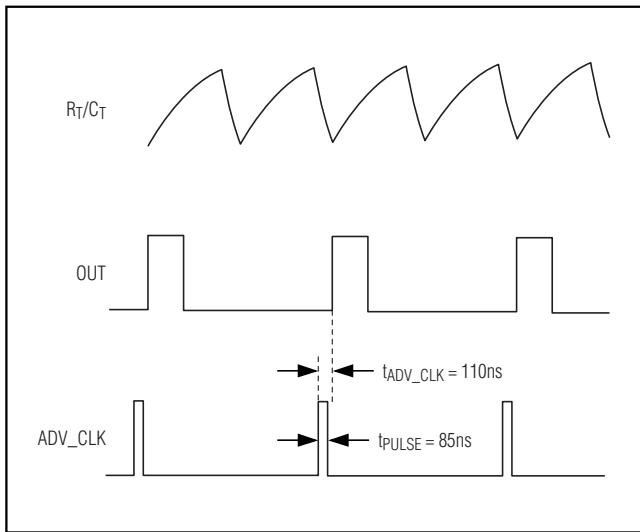
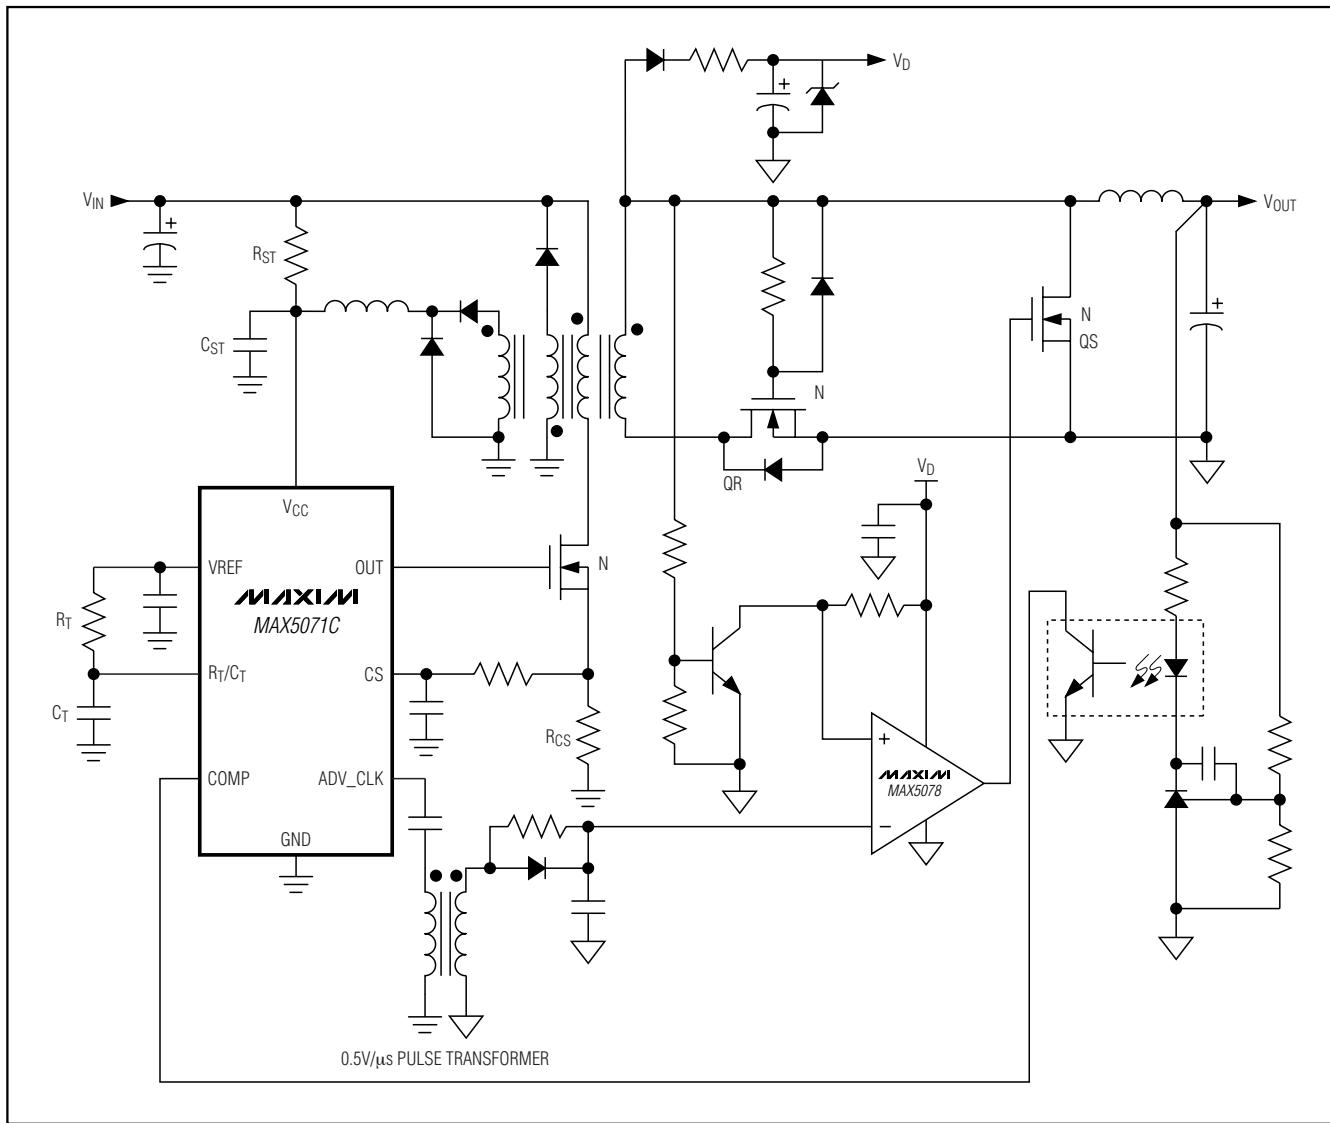

Figure 4. ADV_CLK
Figure 8. MAX5071C Typical Application Circuit (Isolated Forward with Secondary-Side Synchronous Rectification)
| — | 2 | ADV_CLK | ADV_CLK is an 85ns clock output pulse preceding the rising edge of OUT (see Figure 4). Use the pulse to drive the secondary-side synchronous rectifiers through a pulse transformer or an optocoupler (see Figure 8). |
ADV_CLK is an advanced pulse output provided to facilitate the easy implementation of secondary-side synchronous rectification using the MAX5071C. The ADV_CLK pulse width is 85ns (typically) with its rising edge leading the rising edge of OUT by 110ns. Use this leading pulse to turn off the secondary-side synchronous-rectifier MOSFET (QS) before the voltage appears on the secondary (see Figure 8). Turning off the secondary-side synchronous MOSFET earlier avoids the shorting of the secondary in the forward converter. The ADV_CLK pulse can be propagated to the secondary side using a pulse transformer or high-speed optocoupler. The 85ns pulse, with 3V drive voltage (10mA source), significantly reduces the volt-second requirement of the pulse transformer and the advanced pulse alleviates the need for a high-speed optocoupler.